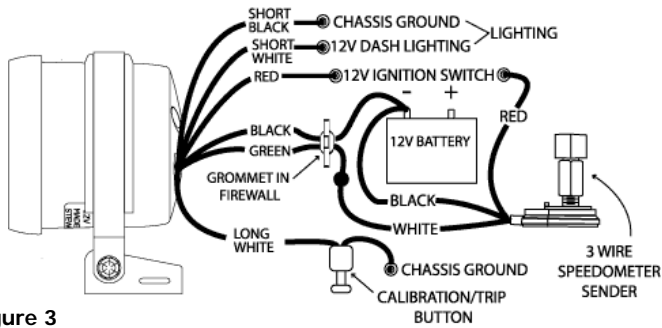

Figure 3
4. Using 18-ga. wire, connect the **(GREEN)** wire the speedometer sender or magnetic sensor (refer to figure 3 and 4 for sender wiring). Factory speedometer senders may be used as well. Refer to the vehicle service manual or your dealer for factory speedometer sender wiring information.
7. There are two (2) wires for the lighting. Connect the **(SHORT WHITE)** lighting wire to the dash lighting circuit or to a +12V switched circuit. Connect the **(SHORT BLACK)** lighting wire to a chassis ground.